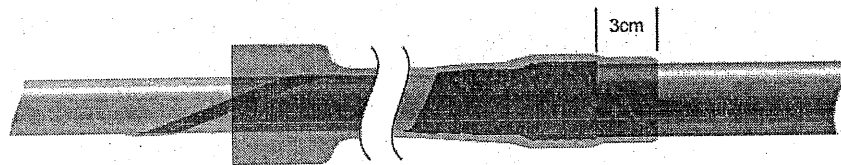

Figure 33.
- Remove the plastic Mast Butt Adaptor section of the Terminal Base Assembly by unscrewing the M6 Phillips head screw on the side. Again, straighten the cable as much as possible and carefully slip the first 1.2m length of Heatshrink over the cable ensuring that the Semi-Conducting Tape is not effected, until the end of the Heatshrink tube covers and overlaps the Semi-Conductive Tape (over the Black PVC Outer Sheath) by 3cm. (Figure 33) Using a Gas torch or heat gun, shrink the lower end into the correct position and gradually work up towards the top of the Heatshrink.